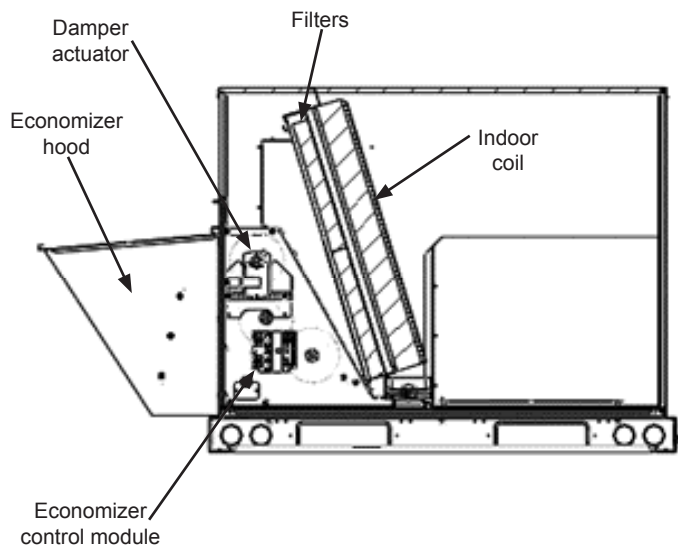

Figure 3
3. Install damper assembly into unit. Fit opening in bottom of damper assembly over the return air opening. See Fig. 3.
5. With hood assembled, fit the mating flange on hood top underneath the "knuckle" on the top seal panel. Attach hood over economizer as shown in figure 3, 4 and 9.